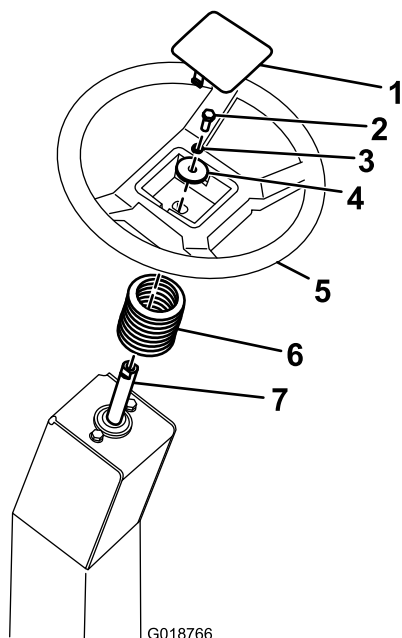

Figure 5
1. Slide the steering shaft cover over the shaft (Figure 5).